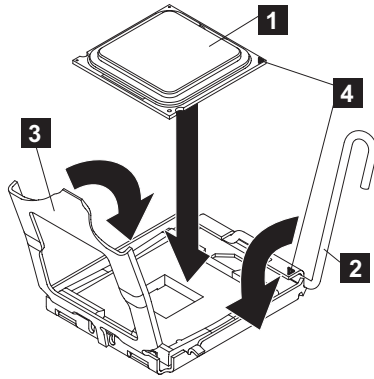

Figure 260. Closing the SAN Volume Controller 2145-CG8 or 2145-CF8 microprocessor-bracket frame
- Align the triangular alignment mark (**4** in Figure 260 on page 276) on the microprocessor on the microprocessor installation tool with the triangle alignment mark on the microprocessor, then place the microprocessor on the underside of the tool so that the tool can grasp the microprocessor correctly onto the bottom of the installation tool.
To align the microprocessor with the socket, use the triangular alignment cutout on the microprocessor socket and the triangular alignment mark (**4** in Figure 260 on page 276) on the microprocessor. Also use the position of the notches to align the microprocessor.